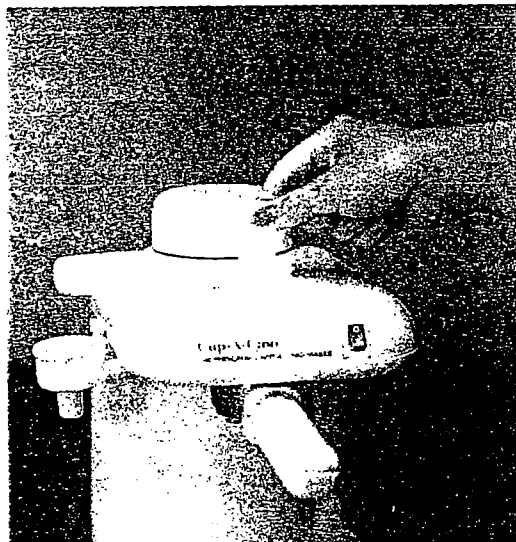

Figure 7
6. Place the CARAFE COVER (D) on the CARAFE (E) and insert it under the FILTER HOLDER (B).
7. Press the bottom of the ON/OFF SWITCH (I)...to the lighted "ON" position.
8. While you are waiting for the water to heat and run through the machine...place an empty heat proof container under the CAPPUCINO WIZARD SPOUT (M) and place the ASPIRATOR TUBE (L) into a glass of tap water.
9. When the water begins to empty from the boiler through the FILTER HOLDER (B) into the CARAFE (E) raise the STEAM DIVERter TAB (H) up (See Fig. 7)...raise the DIVERter PIN (K) on the CAPPUCINO WIZARD (J) up into the open position (See Fig. 6)...open the STEAM CONTROL KNOB (A) by turning it counter clockwise...half a turn...this will draw up the tap water mix it with the steam and empty it into the container you have placed below the CAPPUCINO WIZARD SPOUT (M)...when all the water has run thru the CAPPUCINO WIZARD SPOUT (J)...lower the STEAM DIVERter TAB (H) allowing the balance of the water in the boiler to run through the FILTER HOLDER (B) and into the CARAFE (E).
10. Close the STEAM CONTROL KNOB (A) by turning it clockwise until it stops...push the DIVERter PIN (K) down.
11. When all the water has been emptied from the boiler...press the top of the ON/OFF SWITCH (I) into the "OFF" position...your SALTON EX-1 is now clean and ready for use.
5. As soon as the first drops of Espresso fall into the CARAFE (E)...Raise the STEAM DIVERTER TAB (H) up (See Fig. 7).
6. Press the bottom of the ON/OFF SWITCH (I) to turn the machine on...the red light will come on indicating that the machine is operating. Raise the STEAM DIVERTER TAB (H) (See Fig. 7)...It will take approximately three minutes for water to be heated and steam ready for the CAPPUCCINO WIZARD.
7. Place the empty container or cup to receive the hot water...hot chocolate...etc...directly under the CAPPUCCINO WIZARD SPOUT (M).
9. Lift up the DIVERter PIN (K) to the open position (See Fig. 7).
4. Place the ASPIRATOR TUBE (L) into a glass of water.
5. Raise the STEAM DIVERter TAB (H) up (See Fig. 7).
6. Turn the STEAM CONTROL KNOB (A) to the back of the machine and run the water thru the CAPPUCCINO WIZARD...this will clean everything easily.
7. When clean, turn the STEAM CONTROL KNOB (A) clockwise until it stops...press down the DIVERter PIN (K) and remove the ASPIRATOR TUBE (L) from the water.
8. Push down the STEAM DIVERter TAB (H)...press the top of the ON/OFF SWITCH (I) to the "OFF" position.